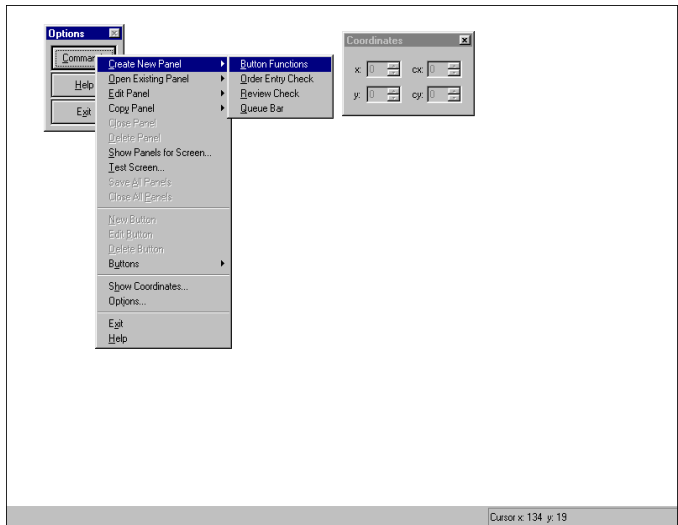
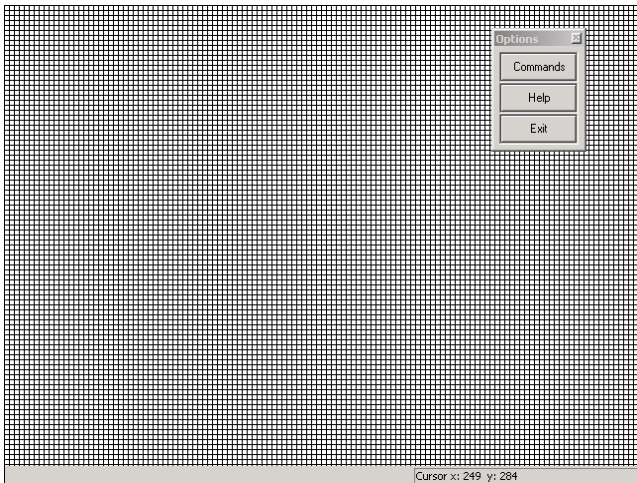

Figure 5-27 Panel Editor Workspace, Toolbar and Commands Menu
Figure 5-29 Panel Editor Grid
After setting the Desktop size, the workspace displays with the toolbar, as shown in Figure 5-27:
- 3. Select **Show Grid** and click **OK** to display the Panel Editor grid based on the settings in the ‘Grid Setting’ text box, as shown in Figure 5-29, or clear the **check box** and click **OK** to display the workspace without a grid (Figure 5-27)